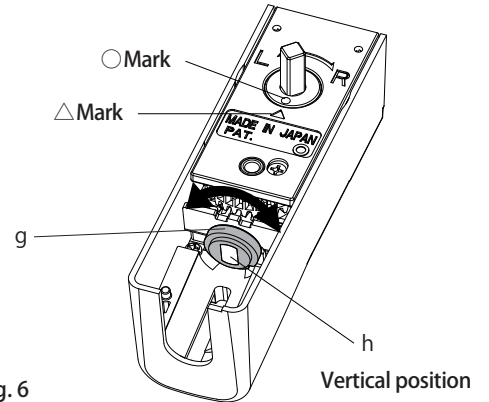

Fig. 6
2. Rotate the cylinder coupling (g) and align the ○ and △ marks on the spindle. (Fig. 6)